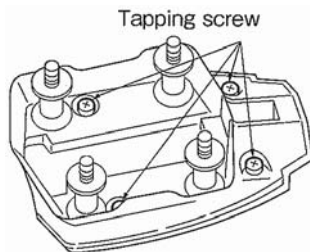

Fig. 8
2) Loosen 4 screws (Cross Recessed Pan Head Tapping Screw M4 x 20) and remove the Housing Cover. (Fig. 8) Trigger and the Cancel Switch can be also taken off same time.